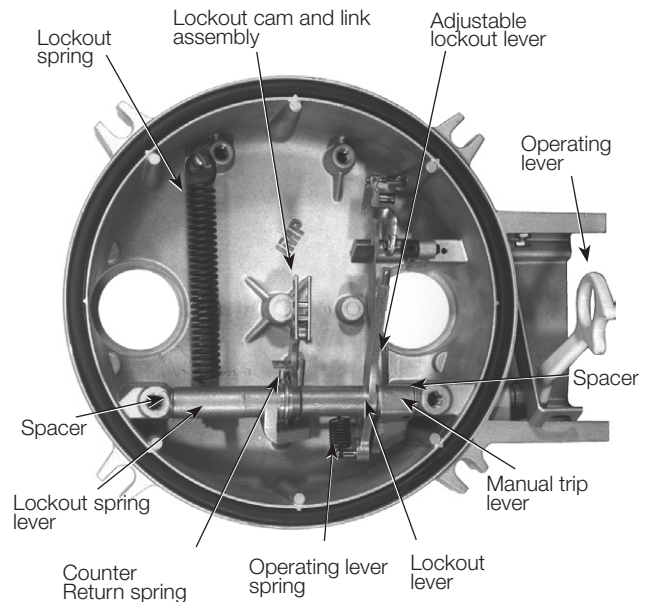

Figure 14. View of head mechanism
4. Carefully unhook lockout spring, operating lever spring and counter spring, see Figure 14.